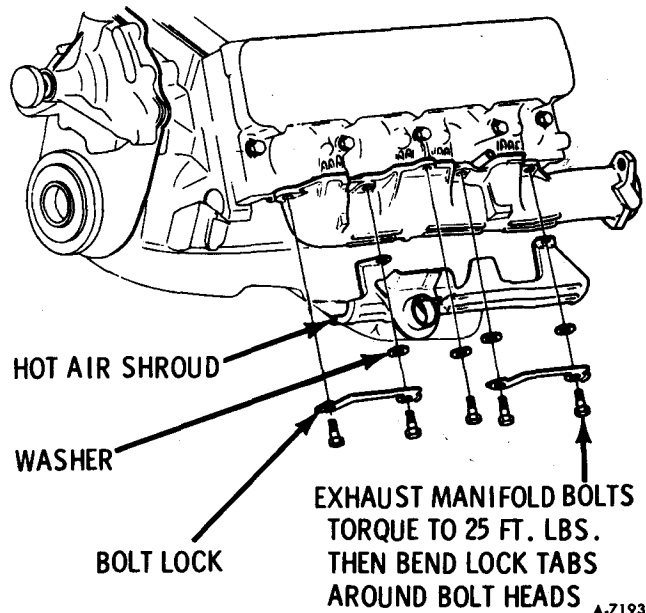

Figure 17—Hot Air Shroud
2. Remove hot air shroud as shown in figure 17.
1. Position exhaust manifold on engine and install bolts No. 3 and 4 finger tight (figure 17).